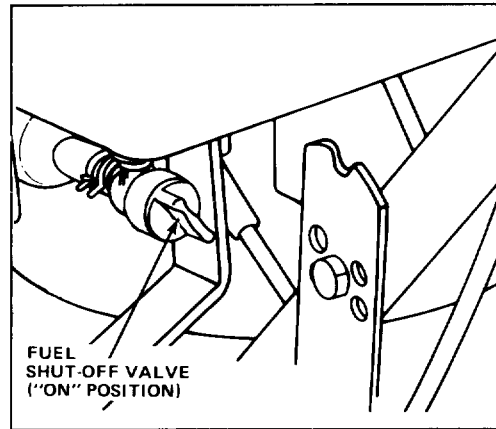

Figure 7
3. Turn fuel shut-off valve to ON position (Fig. 7).